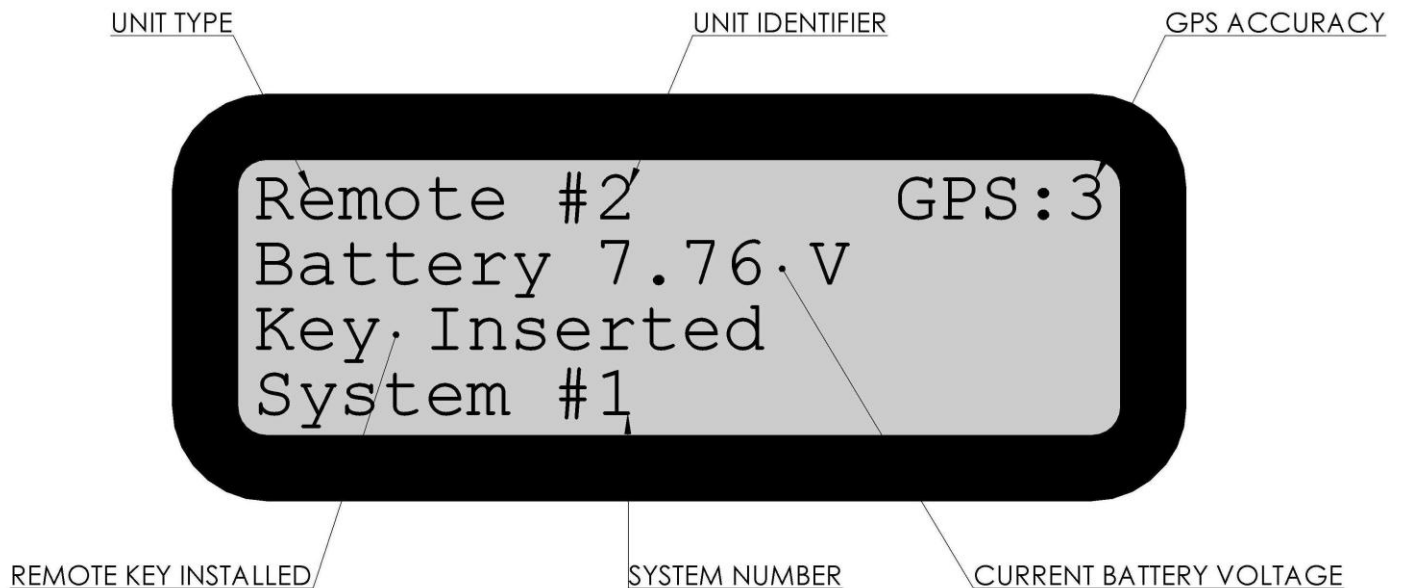

Figure 2-10 Remote Unit Default Screen
2.10.5. Figure 2-10 shows that this unit is #2.